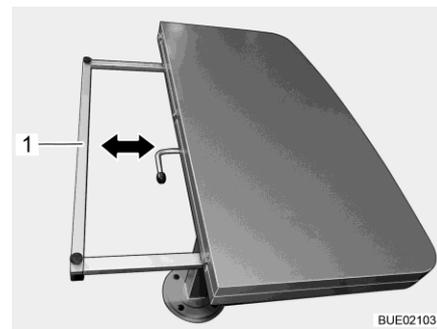

Fig. 126 Reducing the table top size
- Hold the supporting frame (Fig. 126,1) on both sides and push it underneath the table top as far as it will go.